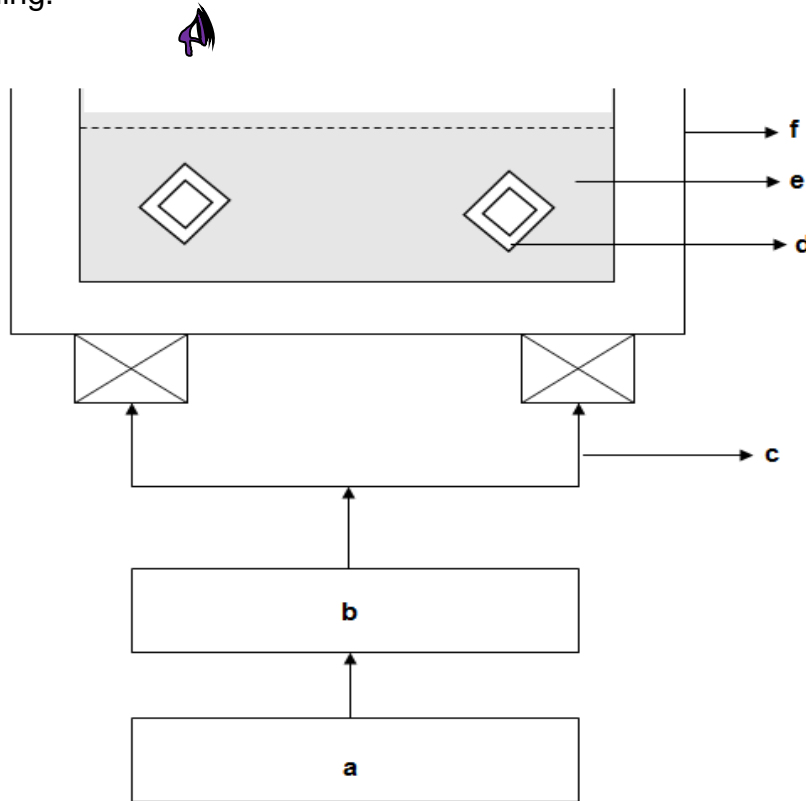

FIGURE 2
FIGURE 2 represents a generic diagram of the apparatus used for performing ultrasonic cleaning.
- 3.1 Name the parts indicated in FIGURE 2 by writing only the answer next to the letter (a-f) in the ANSWER BOOK. (6 × 1) (6)